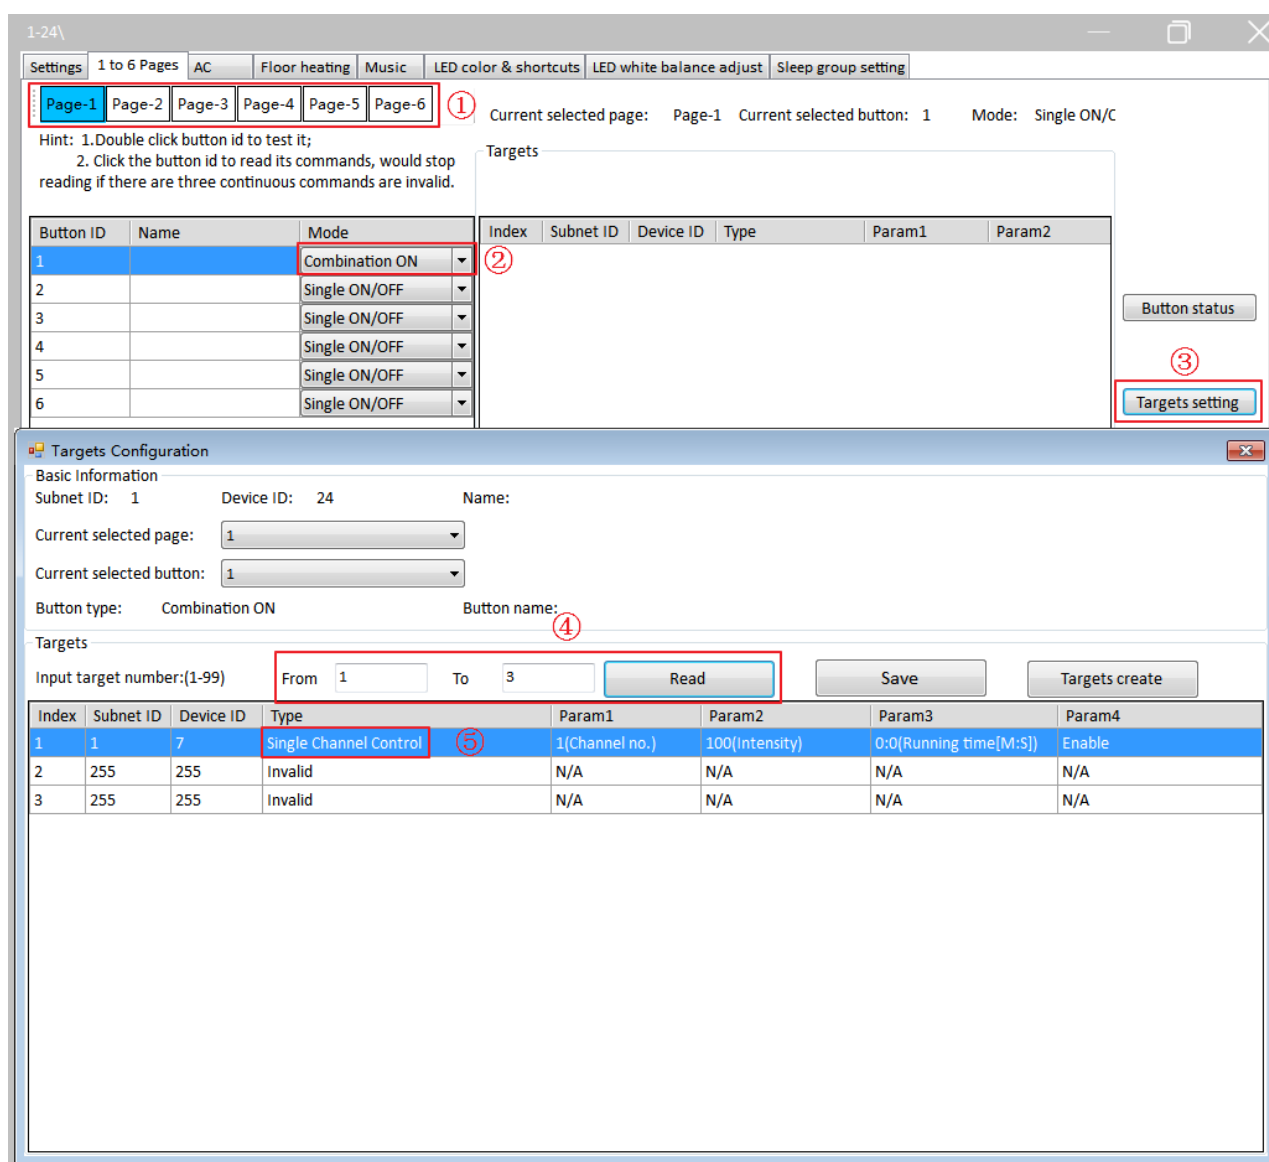

Figure 3-1 Button objects setting
Select “1 to 6 Pages” label in the panel configuration page and select buttons to be set at the top. Click “Targets setting” button on the right, as shown in Figure 3-1.
1. Select button in mark ① of Figure 3-1.
2. Set the button mode of button 1 to “Combination ON” in the button list on the left (Mark ② of Figure 3-1).
3. Click “Targets setting” button to open the page (Mark ③ of Figure 3-1).
4. Input “from 1 to 3” in “Input target number” and click “Read” button (Mark ④ of Figure 3-1).
Select objects in object list to change “Subnet ID”, “Device ID”, “Type” (Mark ⑤ of Figure 3-1), and other parameters (on the basis of the selected type). Click “Save” to save changes.